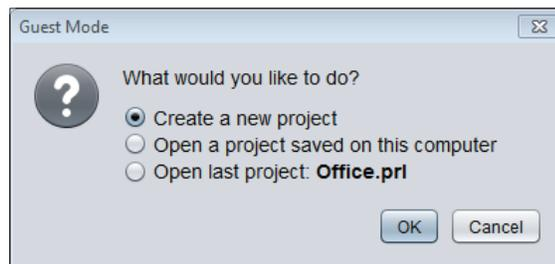

Figure 8
2. Upon first opening the Focus software, it will prompt the user to either. (Figure 8)